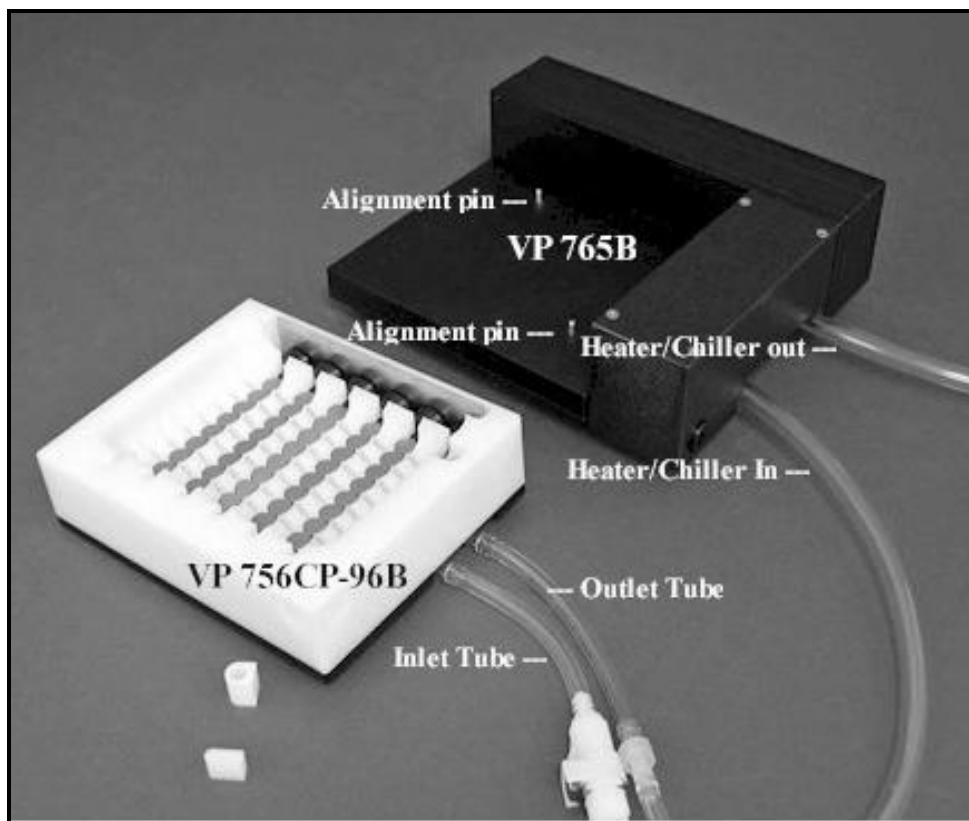

Figure 2. Illustrates the VP 756CP-96B Reservoir and the VP 763B Drive Unit with the alignment pins to register the Reservoir into the correct position
3. Be sure the protective metal shim is in place between the wall of the reservoir and the bubble paddle magnetic clutches. See Figure 2. The metal shim will prevent the magnetic clutch from boring a hole in the reservoir wall.